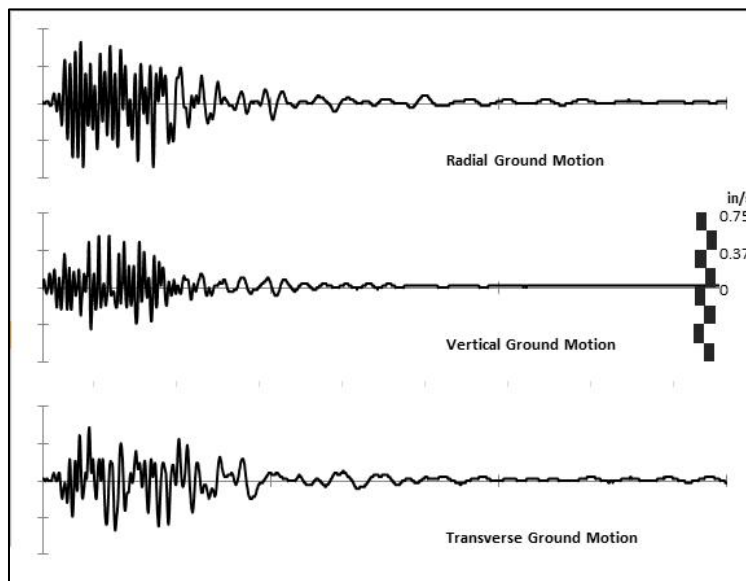

Figure A 31: Final Scaling of Ground Motion Plots
6. View the results in the exterior trigger tab. They should look like the plots in Figure A 31.